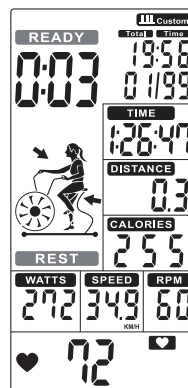
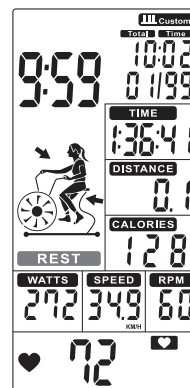

FIGURE 37
FIGURE 38
- When a series is finished, the time starts counting and REST flashes once per second along with an audible alert (Figure 37), while READY will flash for the last 3s (Figure 38).